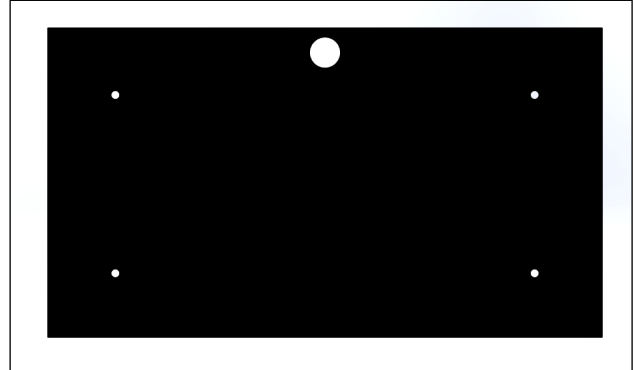

Fig. 2.1.2 (Rubber Floormat)
- 2.1.2 Remove the perforated floor pan from the vehicle. See fig. 2.1.2. Take the rubber floormat from the hardware box. Install the floormat to the top of the floor pan (rubber facing up) using the following hardware.